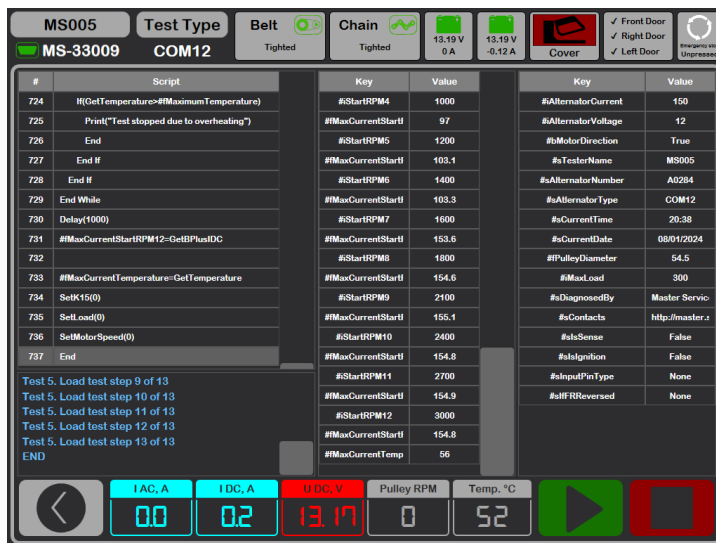

Figure 27. Menu of the automatic test mode
5. To start the test, press the button  in the opened window (see Figure 27). Then, the bench will automatically perform all checks according to the selected script. If necessary, the test process can be interrupted by pressing the button .